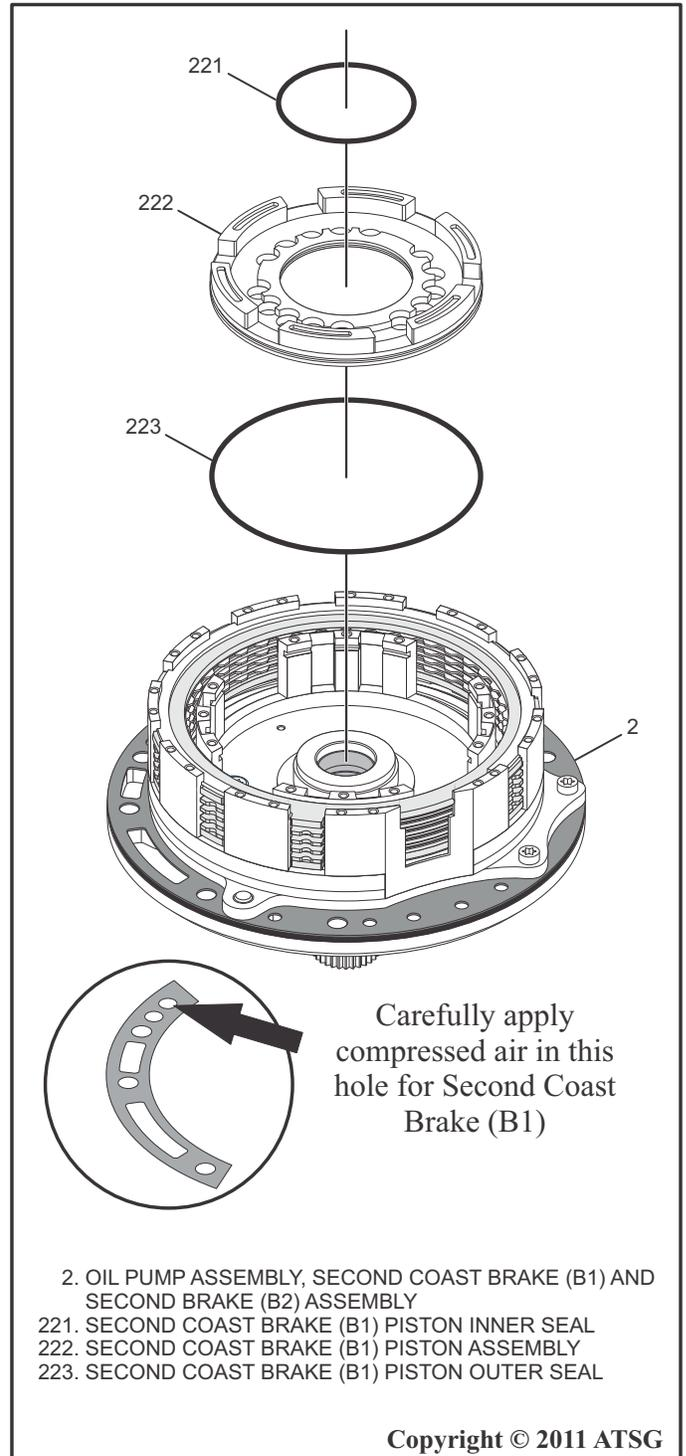

Figure 94
5. While pulling upward on the piston assembly, carefully apply compressed air into the passage for the Second Coast Brake (B1) in the pump assembly and remove the Second Coast Brake (B1) Piston Assembly as shown in Figure 94.
6. Remove and discard the Second Coast Brake (B1) Piston Inner Seal and Outer Seal as shown in Figure 94.